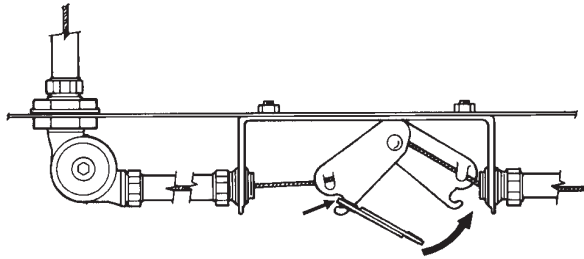

FIGURE 5-29
8. Hook the fusible link on the AUTOMAN release or remote release assembly side of the hook assembly, then pull the fusible link to the opposite side and complete the hookup as shown in Figures 5-29 and 5-30. The top of the hook assembly must be inside the bracket stiffeners. The hook assembly with the ANSUL fusible link in place must be located toward the terminal detector side of the bracket.